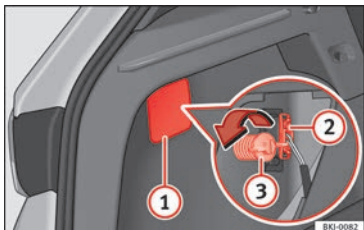
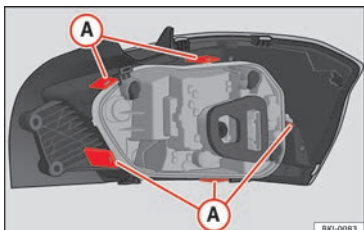

Fig. 118 Luggage compartment: access to the bolt securing the tail light unit.
Fig. 119 Retaining tabs on reverse side of tail light.
» **Fig. 118 ①**.
4. Remove the bulb connector **②**.
5. Unscrew the bolt securing the light **③** by hand or using a screwdriver.
7. Remove the bulb holder unlocking the retaining tabs » **Fig. 119 A**.